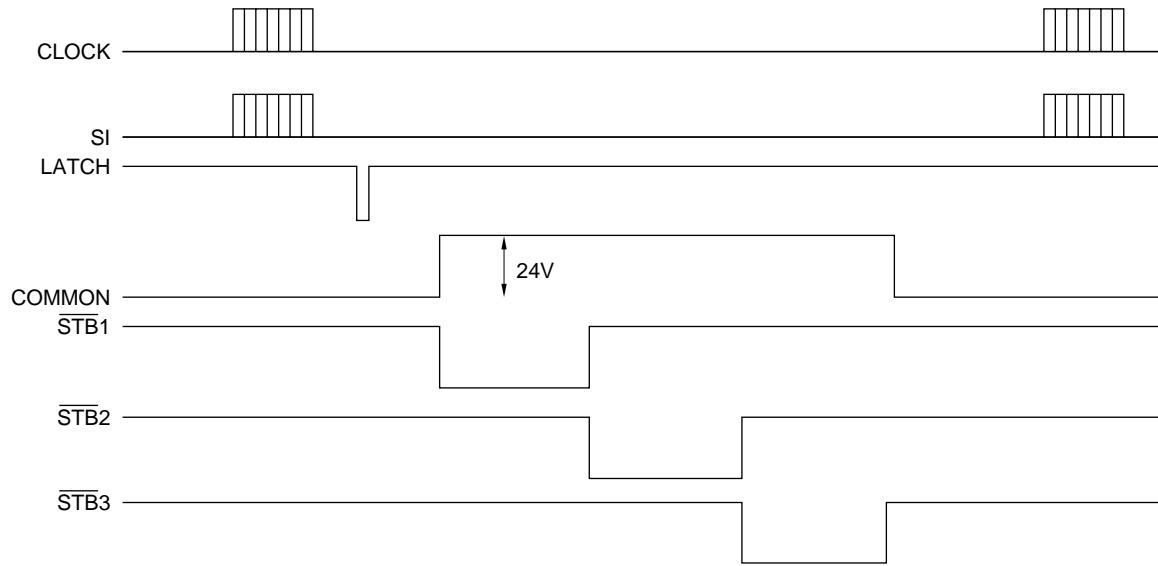

Fig. 2-7 Timing Chart
Figure 2-7 shows the timing for Pattern (5).